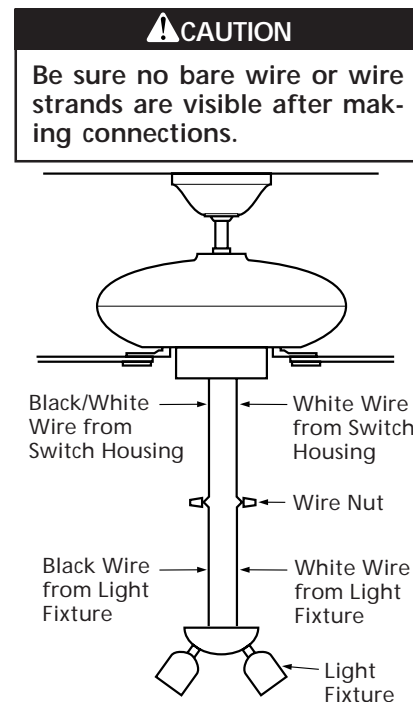

Figure 8b - Wiring Light Fixture to Fan
6. Connect the black wire from the light fixture to the black/white wire from the lower switch housing. See Figure 8b.
Connect the white wire from the light fixture to the white wire from the lower switch housing. See Figure 8b.